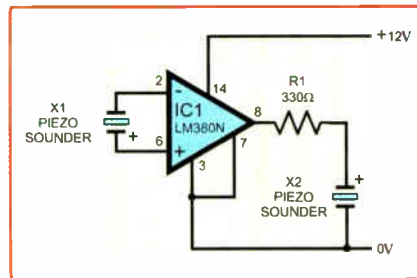

Fig.3. Full circuit diagram for the Simple Sonar
**A**S IF there were no end to what may be done with the LM380N amplifier IC, the circuit in Fig.3 shows a Simple Sonar employing just four components. The circuit description is equally simple.